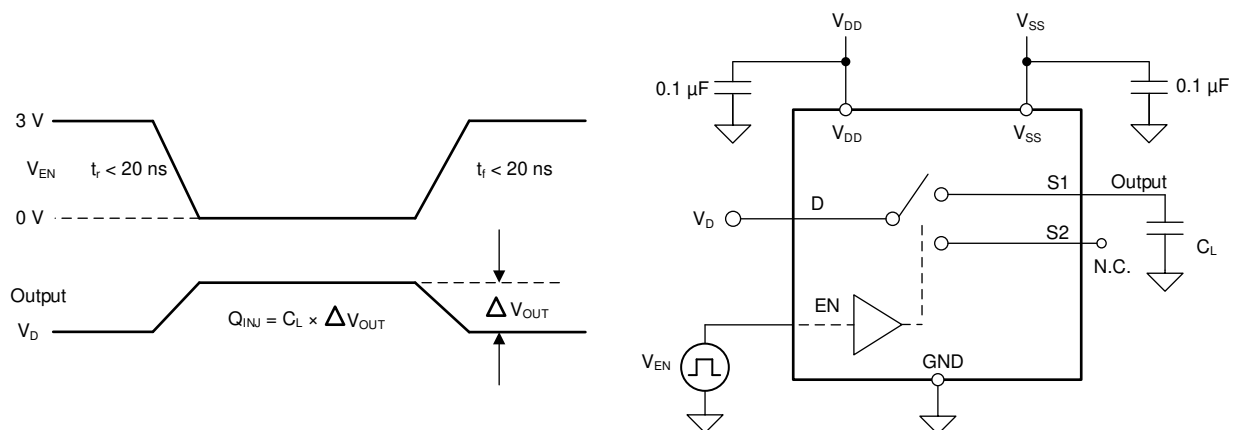

Figure 7-9. Charge-Injection Measurement Setup
The TMUX7219-Q1 has a transmission-gate topology. Any mismatch in capacitance between the NMOS and PMOS transistors results in a charge injected into the drain or source during the falling or rising edge of the gate signal. The amount of charge injected into the source or drain of the device is known as charge injection, and is denoted by the symbol Q_C . Figure 7-9 shows the setup used to measure charge injection from source (Sx) to drain (D).